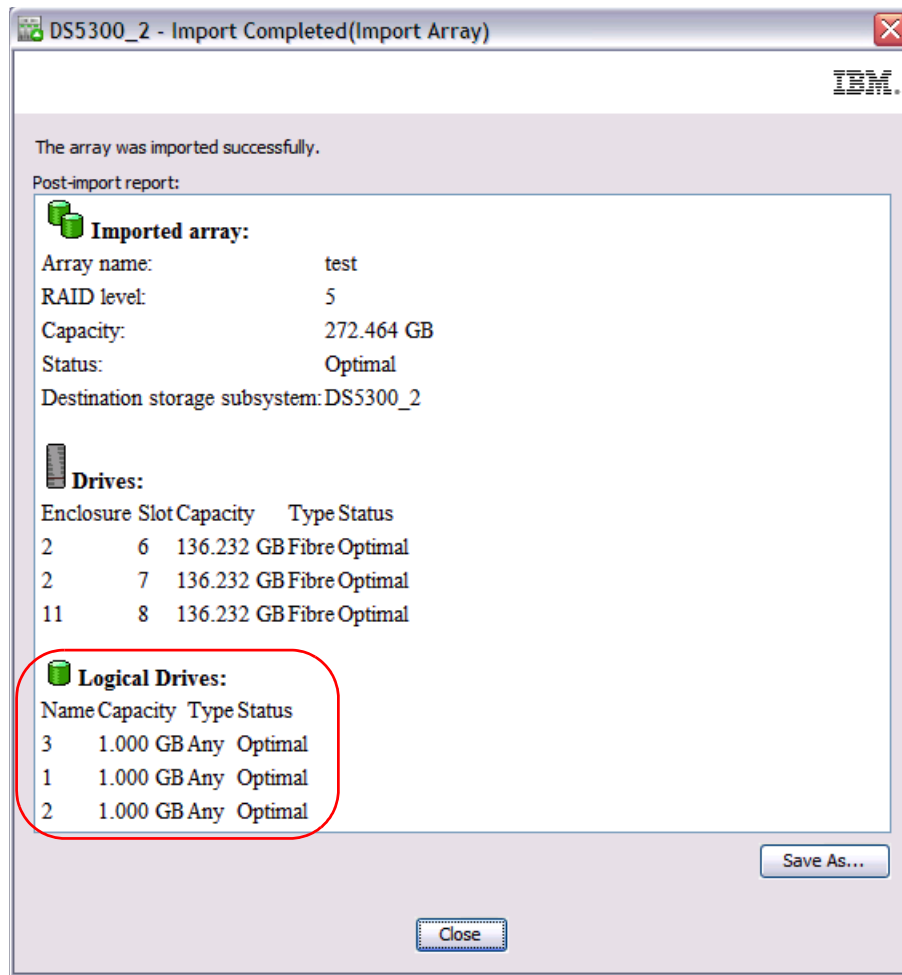

Figure 5-53 Import successfully done
6. The next window displays the result of the import process as shown in Figure 5-53. Make sure that the operation finished successfully, and scroll down the window to see the logical drives imported with the array. Make sure that all of them are available and click **Close** to terminate the dialog.